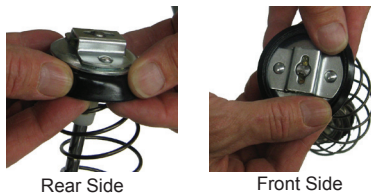

Figure 2
2. Visually check the follower seal lip direction before loading a new cartridge. The follower seal lip must be directed toward the follower handle or rear side for cartridge loading. See Fig. 2. (To change the direction of the follower seal, unscrew tube cap from grease tube assembly and pull on the handle to remove follower seal from tube. Flip follower seal over and reassemble.)